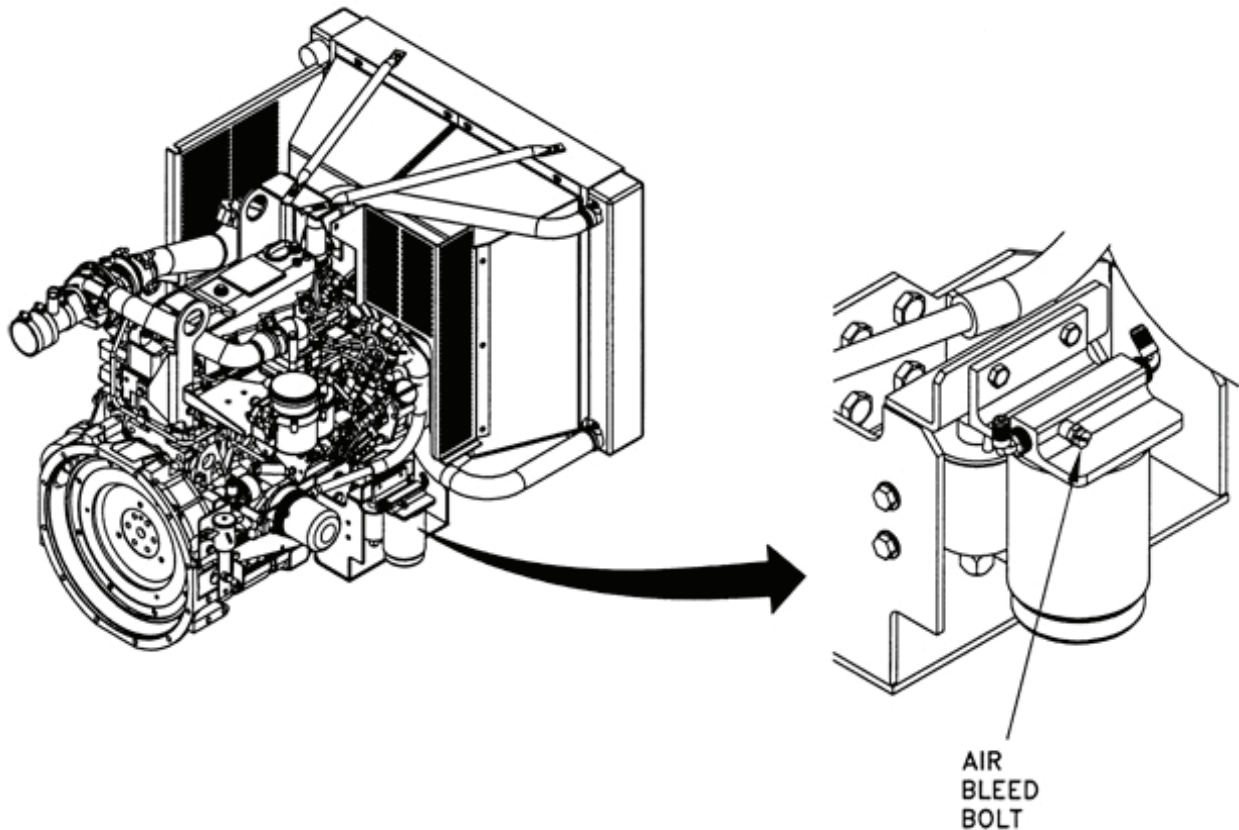

Figure 2-29. Bleeding Air From Fuel System – MEP-804B/MEP-814B.
- d. Loosen air bleeding bolt on fuel filter/water separator (Figure 2-29); then, tighten finger tight.